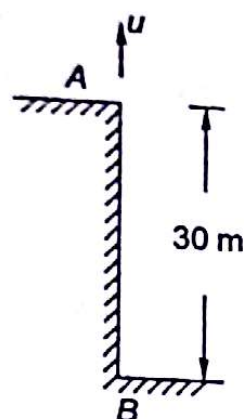

Fig. 10.8
- 10.4 Determine the vertical velocity u with which a ball must be thrown upwards at A in order that the time for the flight to return to the bottom of the cliff is 3 seconds as shown in Fig. 10.8.